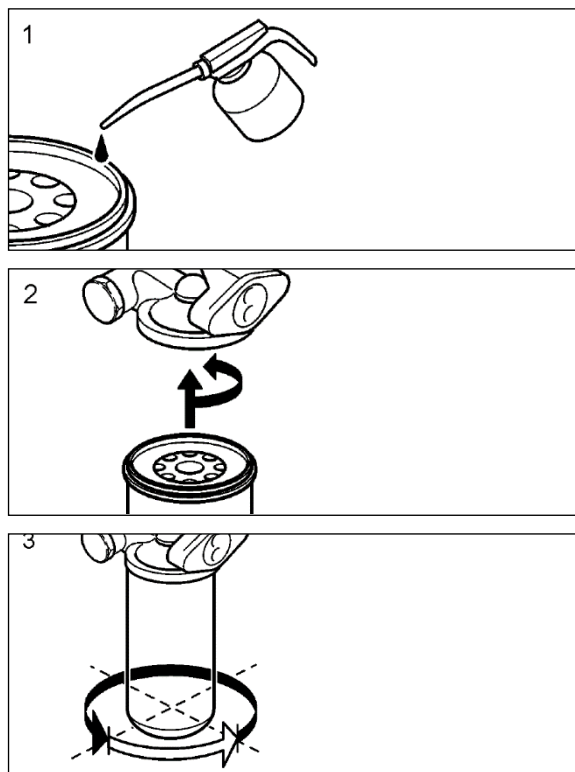

FIGURE 11: OIL FILTER REPLACEMENT
- Prefill the new oil filters with approved engine oil. Refer to Figure 11, also, lubricate the filter gaskets with engine oil (1). Hand tightens the oil filters until they contact the sealing surface of the oil filter housing (2). Manually tighten the oil filters an additional $\frac{3}{4}$ to 1 full turn (3).